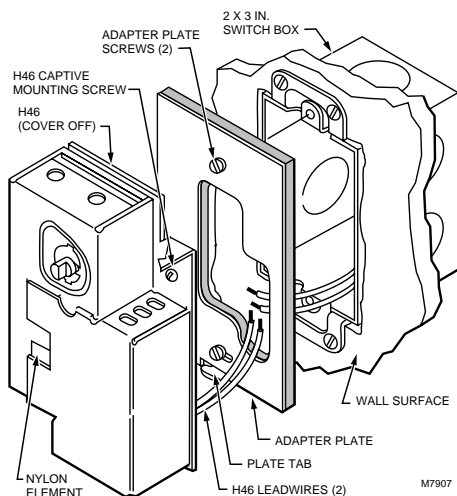

Fig. 1. Mounting H46D on vertical switch box.
- 4 Using the two screws provided, fasten the adapter plate to the switch box as shown. See Fig. 1.